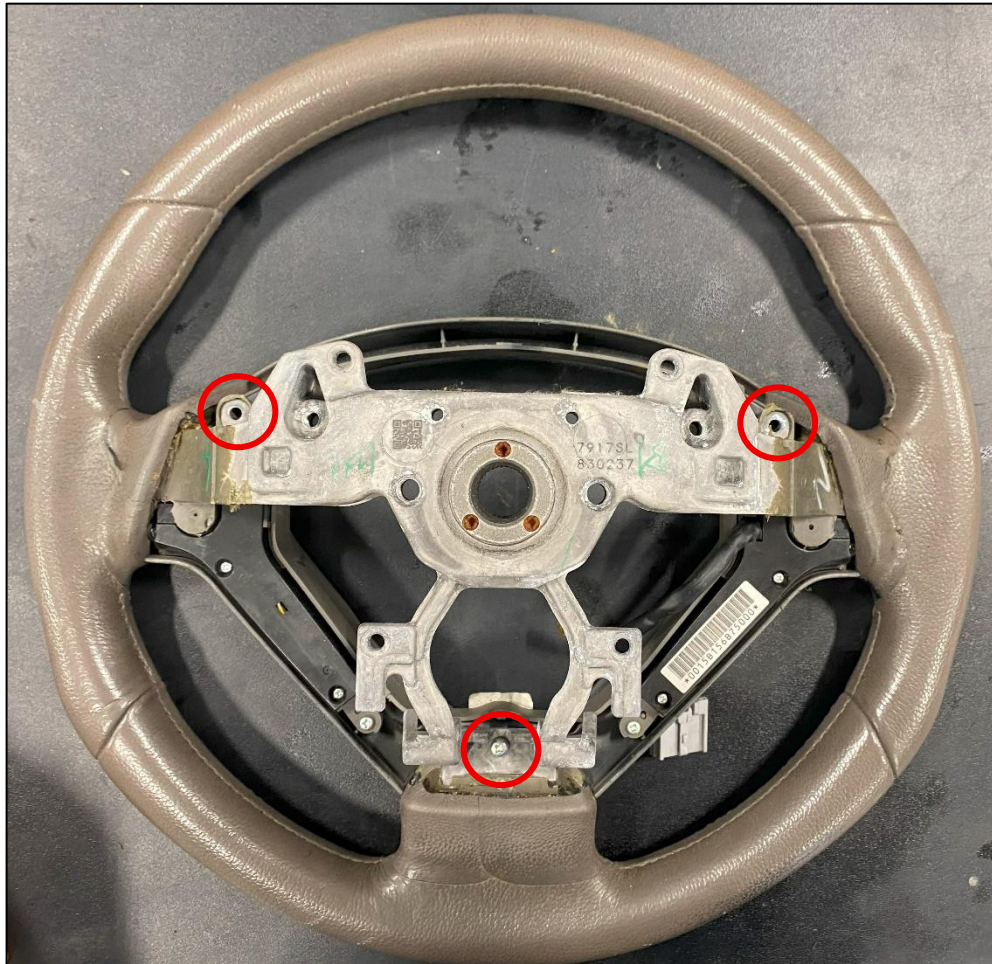

Figure 10
15. Remove the (3) three small screws securing the Wheel Buttons to the backside of the Steering Wheel. Retain this hardware. *Figure 10.*